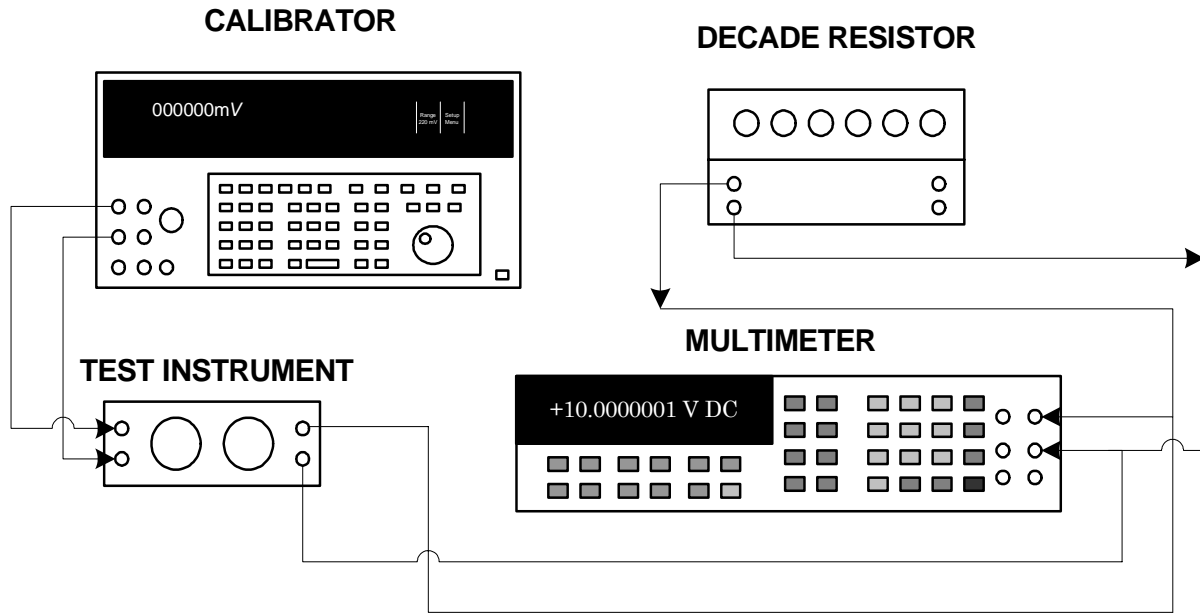

Figure 1. Attenuator range and accuracy.
- b. Connect equipment as shown in figure 1.